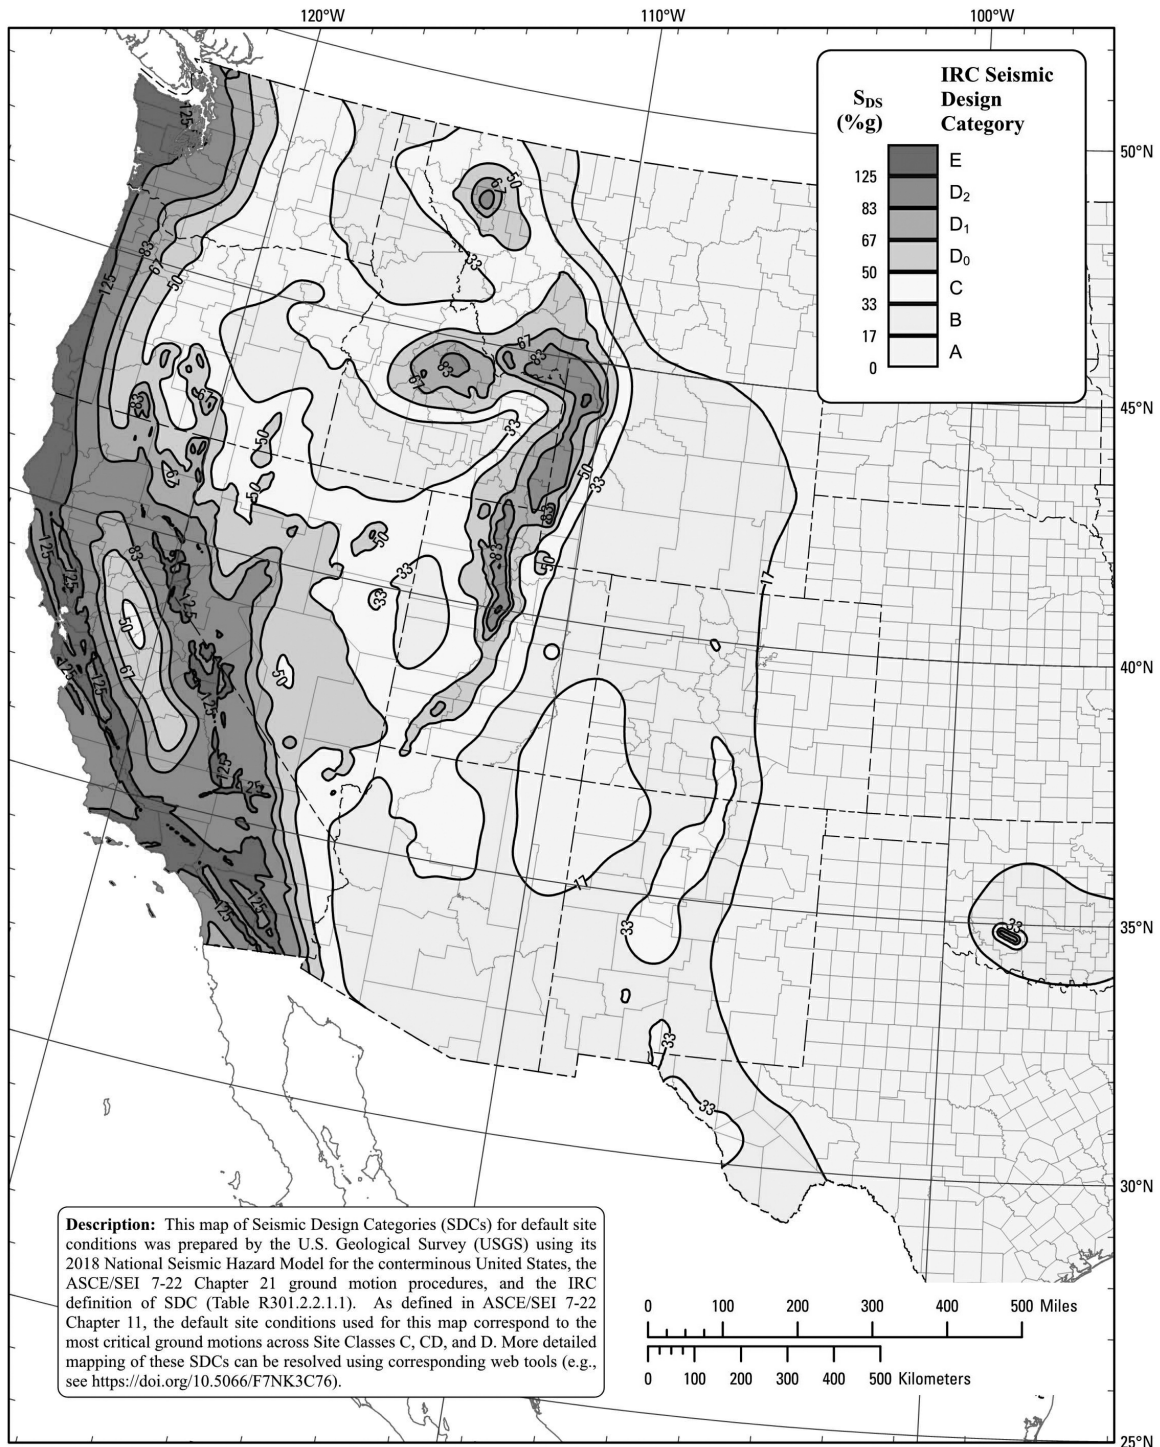

FIGURE R301.2.2.1(1)
All Buildings shall be designed in accordance with the attached ICC 2024 International Residential Building Code Section R301.2.2.1 Determination of Seismic Design Category and figure R301.2.2.1(1) for Routt County Colorado. In Addition ASCE 7-22 Hazard Map shall be used as the reference map for all Seismic Design values as required or as needed by the Design Professional.
Buildings shall be assigned a seismic design category in accordance with Figures R301.2.2.1(1) through R301.2.2.1(7), except as otherwise required by Section R401.4.
Buildings located in *Seismic Design Category E* in accordance with Figures R301.2.2.1\(1\) through R301.2.2.1\(7\) are permitted to be reclassified as being in *Seismic Design Category D₂* provided that one of the following is done: